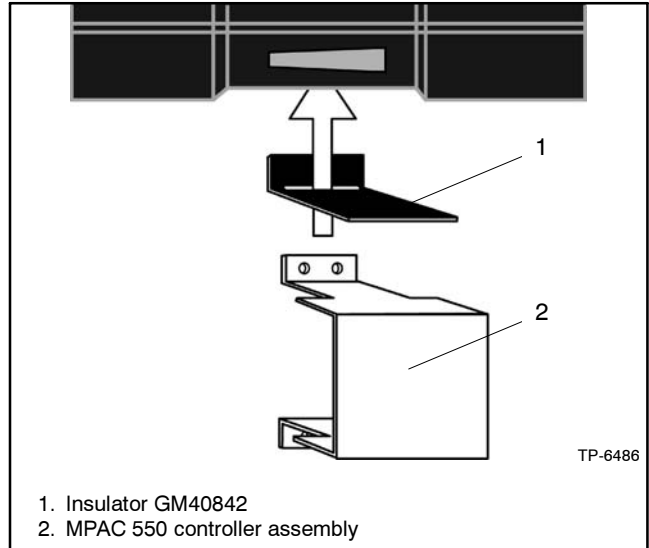

Figure 2-34 Installing Insulator, Type 1 Enclosures Only
- For Type 1 enclosures only, install the insulator over the top mounting foot of the MPAC 550 controller. Refer to Figure 2-34.